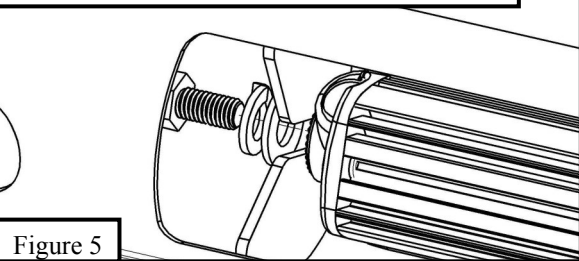

Figure 5
8. **For part number 32-3605L:** Refer to **Page 3** for wiring instructions. Loosen M8 hardware to adjust the LED light in bull bar or to remove it in order to replace it. See **Figure 5** for location of M8 hardware.